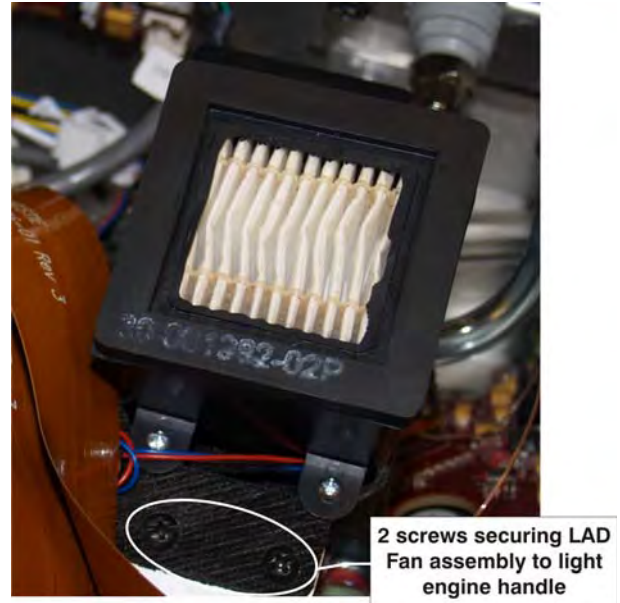

Figure 5-15 Remove LAD Fan Assembly
3. Using a #2 Phillips™, loosen the two screws securing the LAD Fan assembly to the light engine assembly handle (**Figure 5-15**).